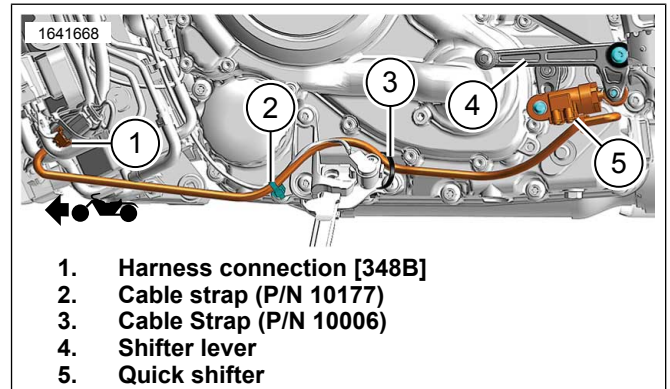

Figure 7. Quickshifter
- b. See Figure 7. Connect quick shifter harness and side stand harness with cable strap (3) loosely.
- c. Connect quick shifter harness and side stand frame mount with cable strap (2) loosely.
- a. See Figure 7. Connect quick shifter harness side stand bracket with cable strap (3) loosely.
- b. Connect quick shifter harness and side stand frame mount with cable strap (2) loosely.